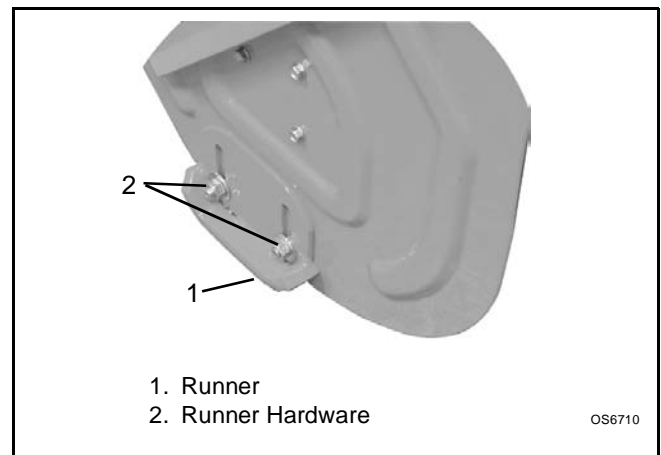

Figure 12
2. Adjust runners by inserting a spacer of desired thickness under center of scraper blade, loosen runner hardware, slide runners to flat surface (Figure 12). Allow 1/8" (3 mm) between scraper blade and hard smooth surface. Allow 1-1/4" (30 mm) minimum between scraper blade and uneven surface(s).